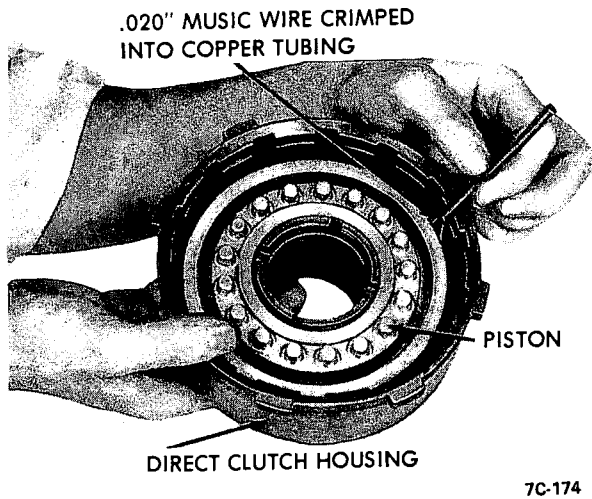

Figure 7C-109
4. Install spring retainer and springs. Compress spring retainer and install retaining ring, using Tools J-2590-3 and J-2590-5. See Figure 7C-103.